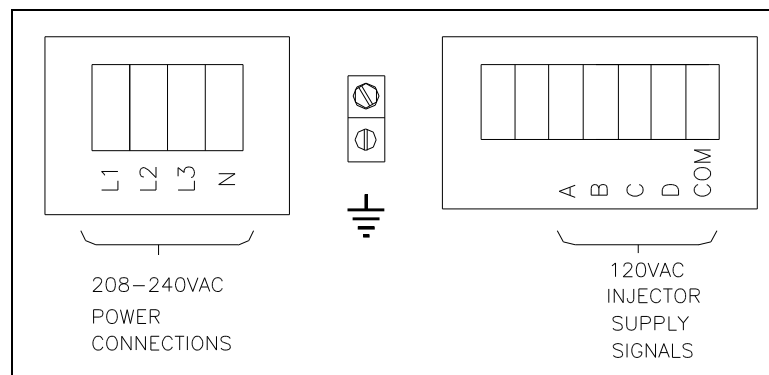

Figure 1-2: Electrical Connections and Chemical Supply Signals
- 1.6.1.2 Locate the power terminal block cover in the upper left corner of the machine when viewed from the back. Remove the screw and lift out the cover. Connections are as shown in Figure 1-2.